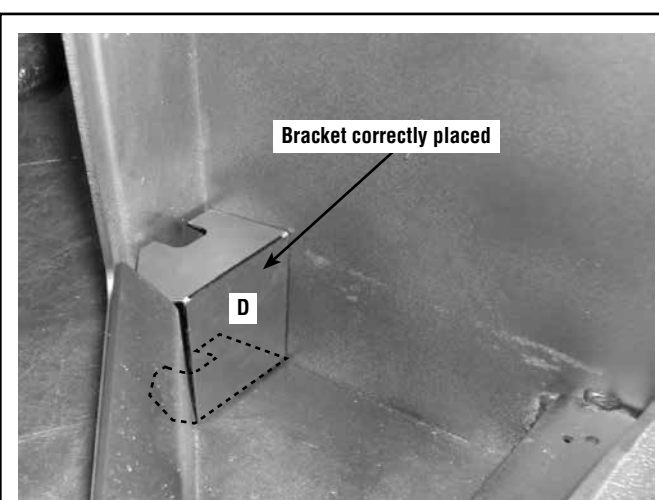

Figure 32 - Log Support Bracket
2. One bracket goes into the left corner and the other into the right corner of the firebox. Rotate the brackets (D) so they are placed as shown in *Figure 32*. The bracket fits between the back of the firebox and the air wash at the front of the insert.